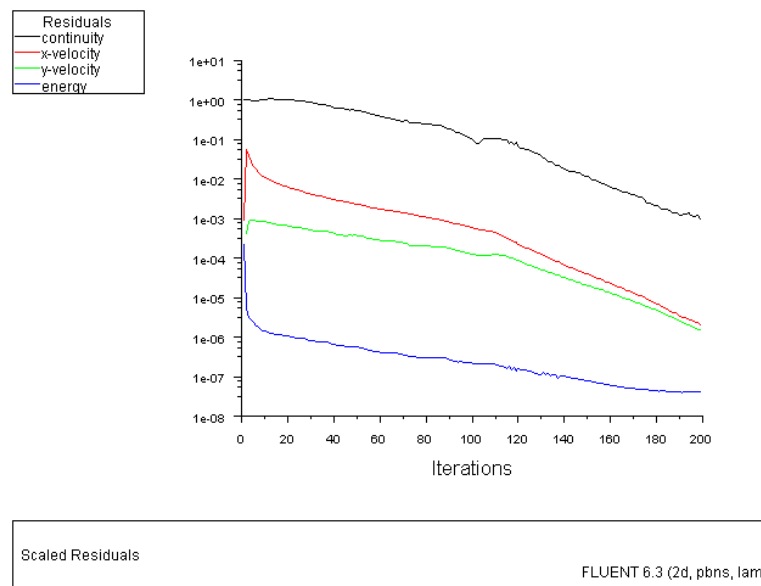

Figure 3: Scaled Residuals
3. Start by requesting 300 iterations (Figure 3).